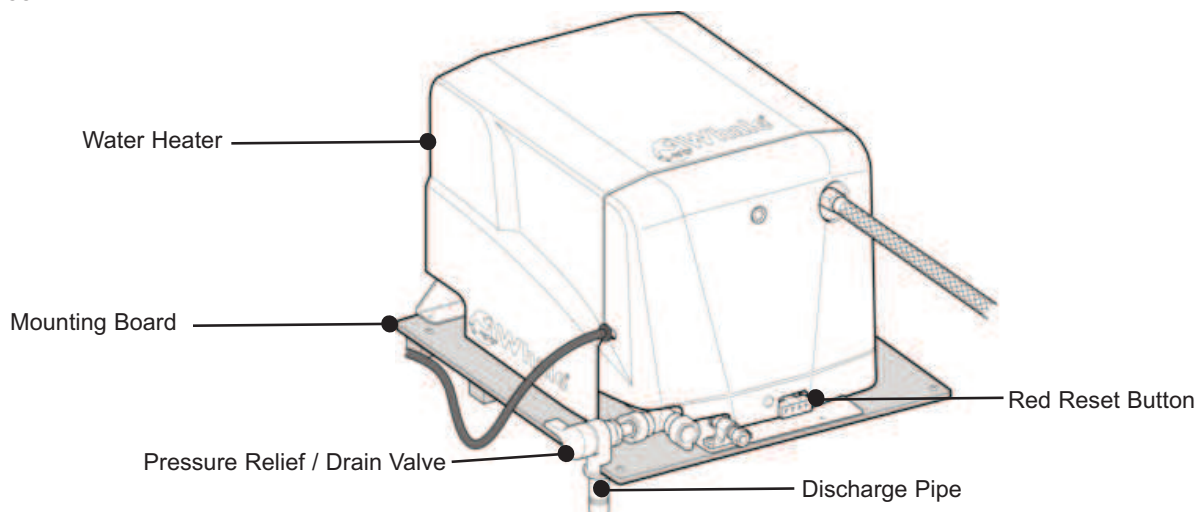

Fig. 14 Fitting the Pressure Relief / Drain Valve
Step 6 Fitting the Drain Pipe (see Fig. 14)